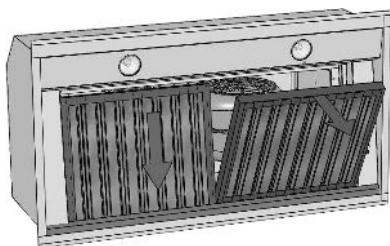
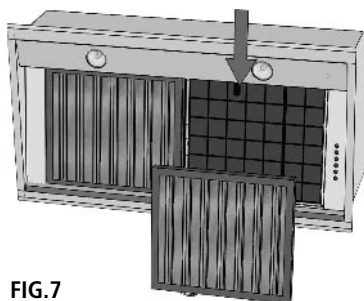

FIG.3
FIG.7
- › When the appliance is used in recirculating mode, the active charcoal filter (Fig.7) needs to be periodically replaced. The charcoal filter can be removed by removing the grease filter first (Fig.3). Reinsert the charcoal filter by performing the opposite operation.